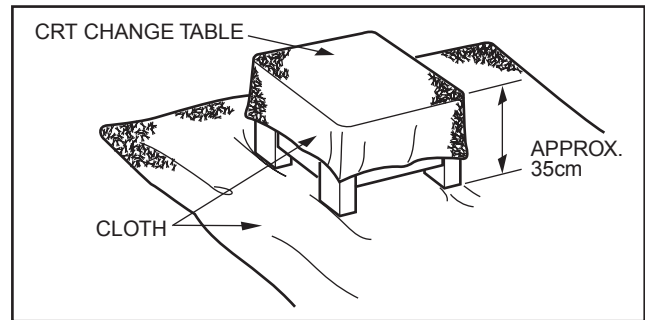

Fig.2
- (1) Putting the CRT change table on soft cloth, the CRT change table should also be covered with such soft cloth (shown in Fig. 2).
- (2) While keeping the surface of CRT down, mount the TV set on the CRT change table balanced well as shown in Fig. 2.